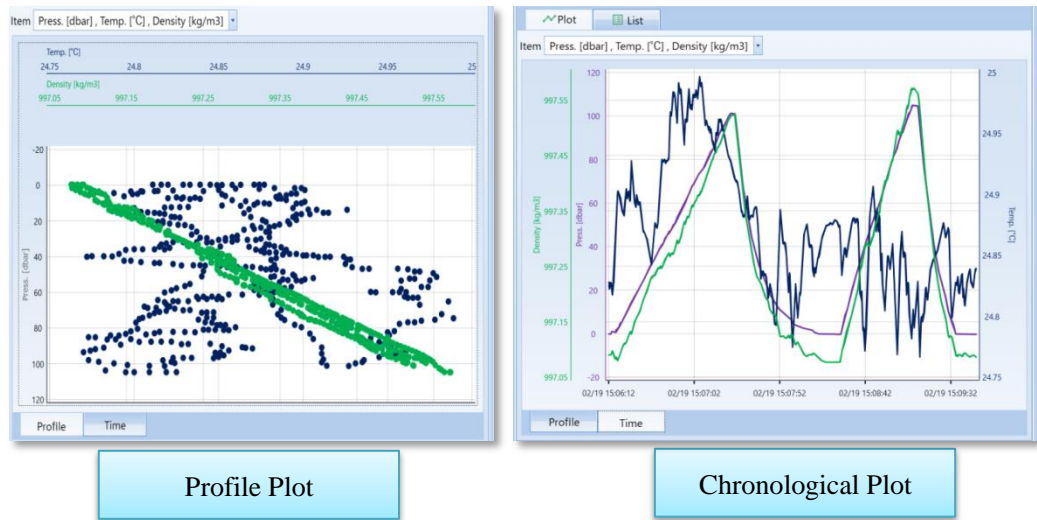

Figure 6.31 Plot display examples
- (2) Switch which plot to display by using the tabs on the bottom of the window. (Figure 6.31)